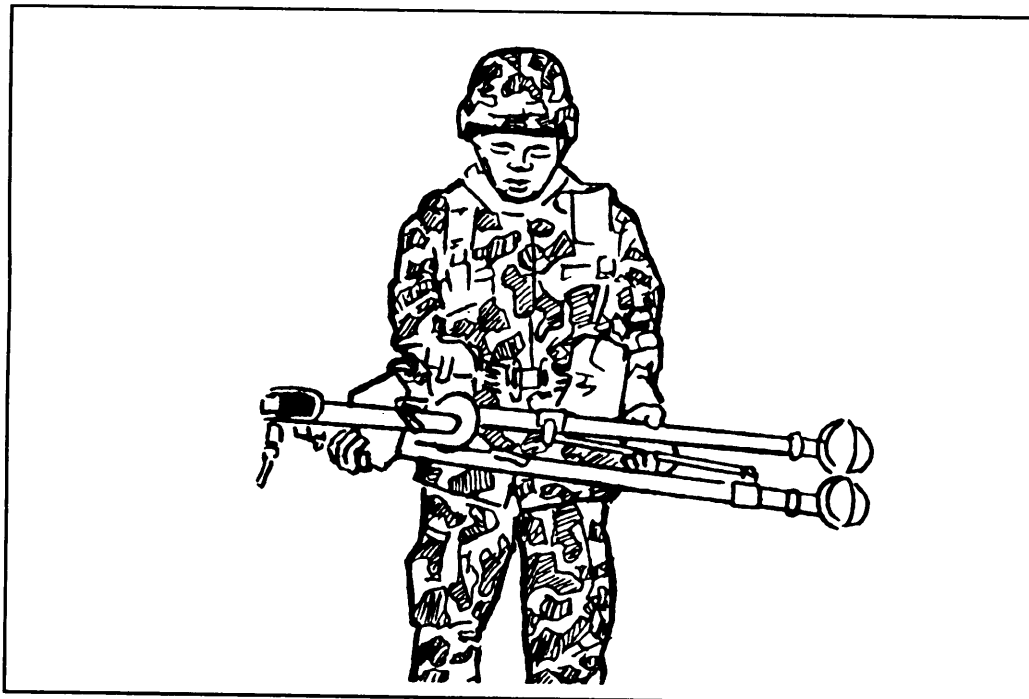

Figure 5-18. Assistant gunner-(No.1) opening the tripod.
(1) At the command or signal ACTION, the assistant gunner grasps the left trail leg near the center with his left hand. Springing to his feet and grasping the tripod head with his right hand, he lifts the tripod across the front of his body with the front leg up, and carries the tripod to the desired location. Upon arrival at the position, he places the trail leg pointing upward. Steadying the tripod with his left hand on the front leg, he loosens the front leg clamp with his right hand (Figure 5-18), positions the front leg with his left hand, and tightens the front leg clamp with his right hand. With his right hand on the tripod head, he slides his left hand down on the left trail leg and with a snapping motion, pulls the left leg (to the left), engaging the sleeve latch (Figure 5-19). He then aligns the tripod for direction, drops the mount to the ground, stamps the right and left trail shoes with his right or left foot, and assumes the prone position behind the mount.